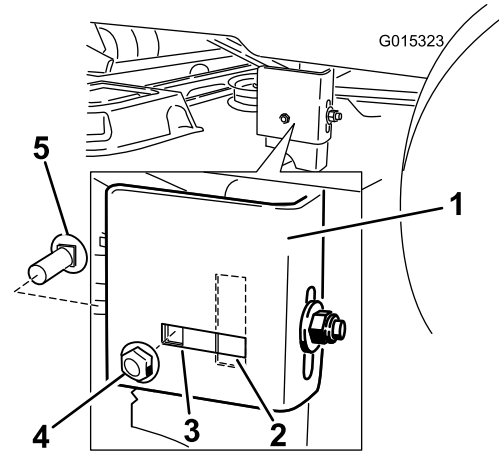

Figure 50
7. Move to the left side of the machine. Check if the side carriage bolt is in the fixed or slotted position (Figure 50).